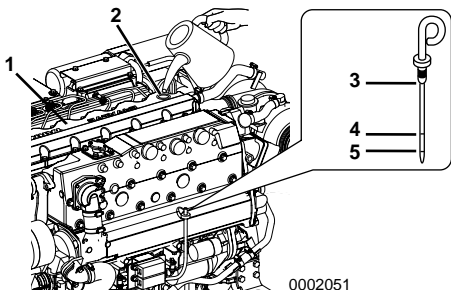

Figure 4
- 2. Remove dipstick (Figure 4, (3)) and wipe with clean cloth.
- 4. Remove dipstick. The oil level should be between upper (Figure 4, (4)) and lower (Figure 4, (5)) lines on the dipstick.
- 1. NOTICE: Prevent dirt and debris from contaminating engine oil. Carefully clean the dipstick, filler port cap and the surrounding area before you remove the cap. Remove the yellow oil filler port cap (Figure 4, (2)) at the top of the rocker arm cover (Figure 4, (1)) and fill with engine oil.
- 2. Fill with engine oil to the upper limit (Figure 4, (4)) on the dipstick (Figure 4, (3)). Insert the dipstick fully to check the level. NOTICE: NEVER overfill the engine with engine oil.
- “Full” means the oil amount at the upper limit (Figure 4, (4)) on a dipstick.
- “Effective” means the difference between oil amount at upper limit and that at lower limit (Figure 4, (5)).
- 3. Hand-tighten the filler port (Figure 4, (2)) cap securely.